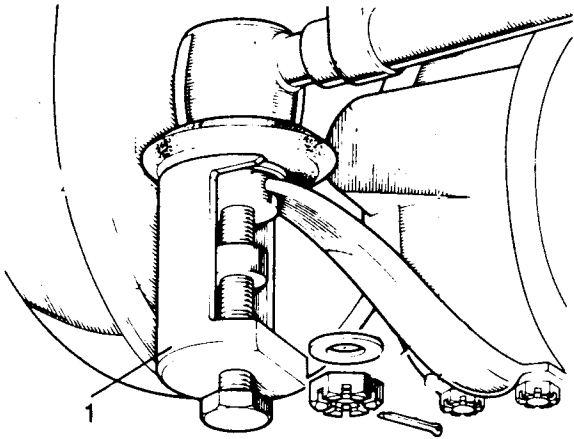

Fig J1.35
(2) Refer to Fig J1.35. Disconnect the track rod at the ball joint, using special tool 601763 (1).
(3) If required, disconnect the drag link at the ball joint, using special tool 601763.